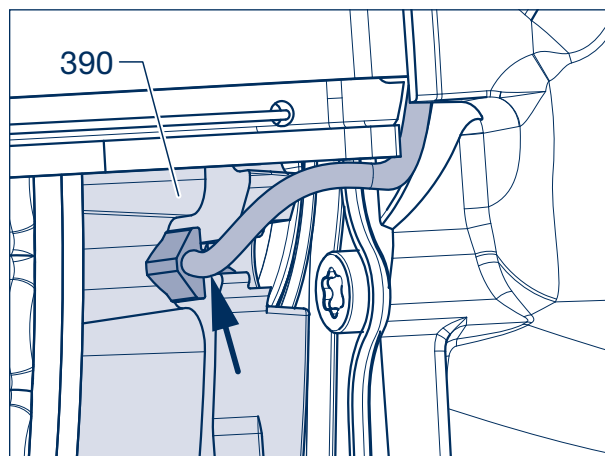

Figure 6
- [10] Clip the brake pad wear contacts into the recesses on the brake linings (390); see also figure 6.